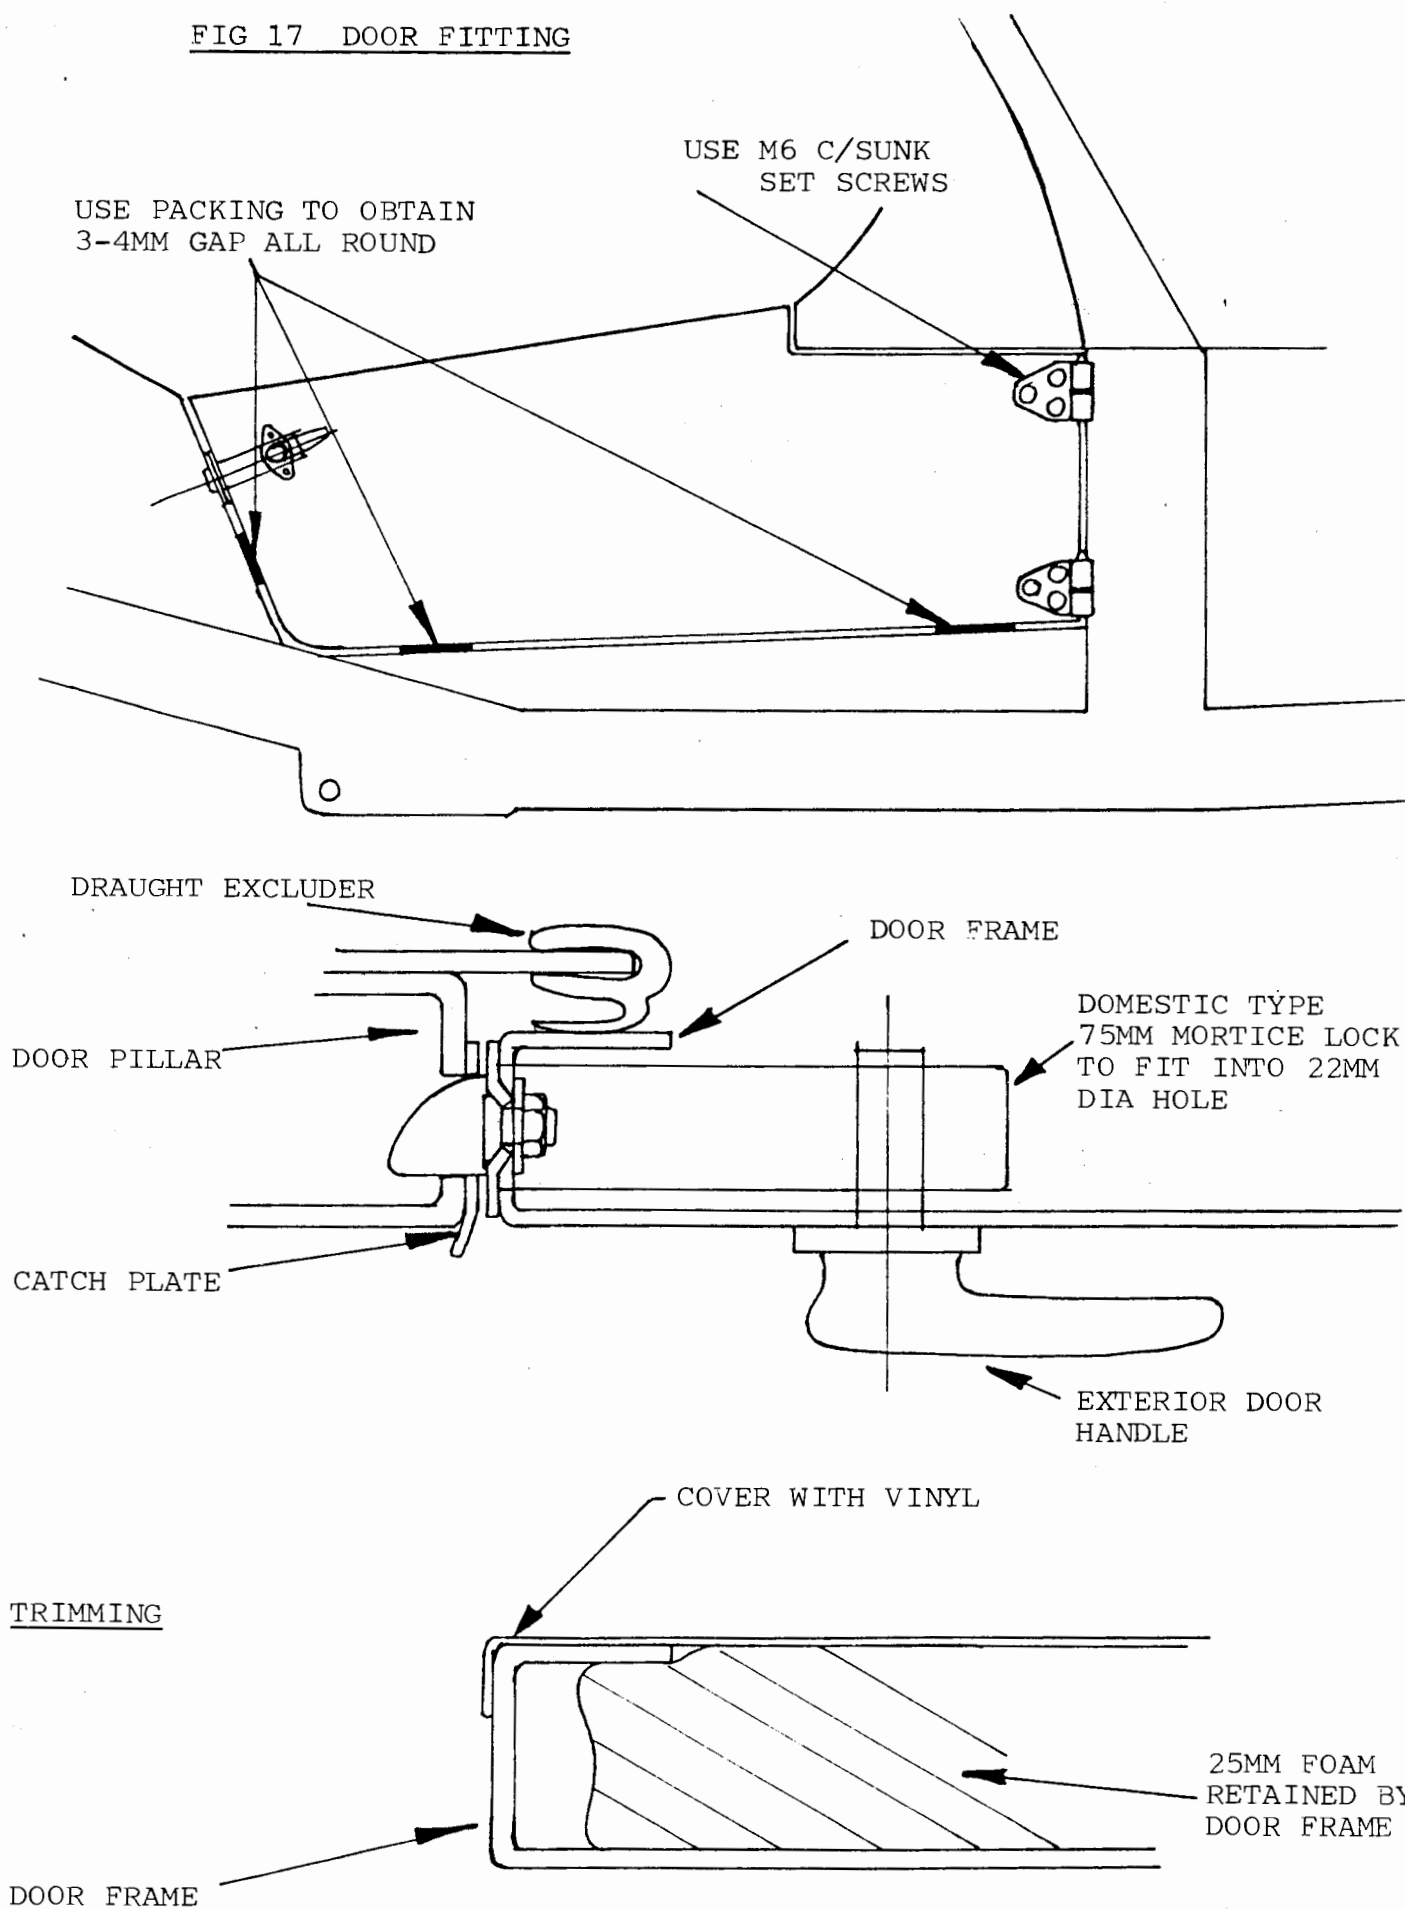

FIG 18 WING FITTING
2.18 Wings: See separate sheet, fig.18.